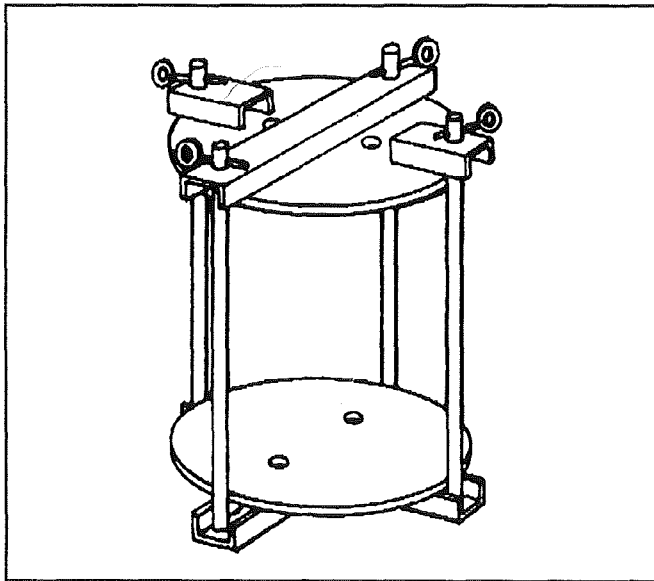

FIG. 6 - Tool #19-0002
**WARNING:** Use tool #19-0002 to disassemble air spring (see figure 6).